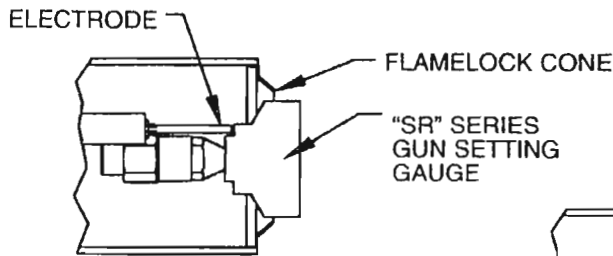
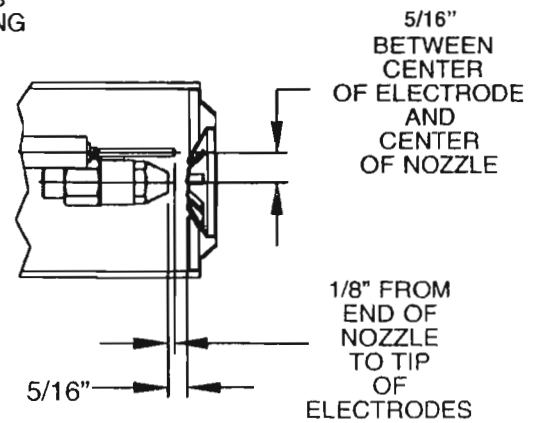

FIG. 3
FIG. 2
- 2 – Install proper nozzle in Drawer Assembly. Loosen the Transformer retainer Screws and swing open to insert the Drawer Assembly (See Fig. 2.) into the air tube to position nozzle. Once installed and adapter fitting is in position in Burner Chassis slot and slide place hole, adjust gun assembly, either back or forward to position nozzle from head. For correct positioning (See Fig. 3). Secure the slide plate by tightening screw at side of housing. Secure the drawer assembly with the locknut provided. Attach flared nut of Oil Line Assembly, (Copper Oil Line) to the end of this adapter fitting as shown.